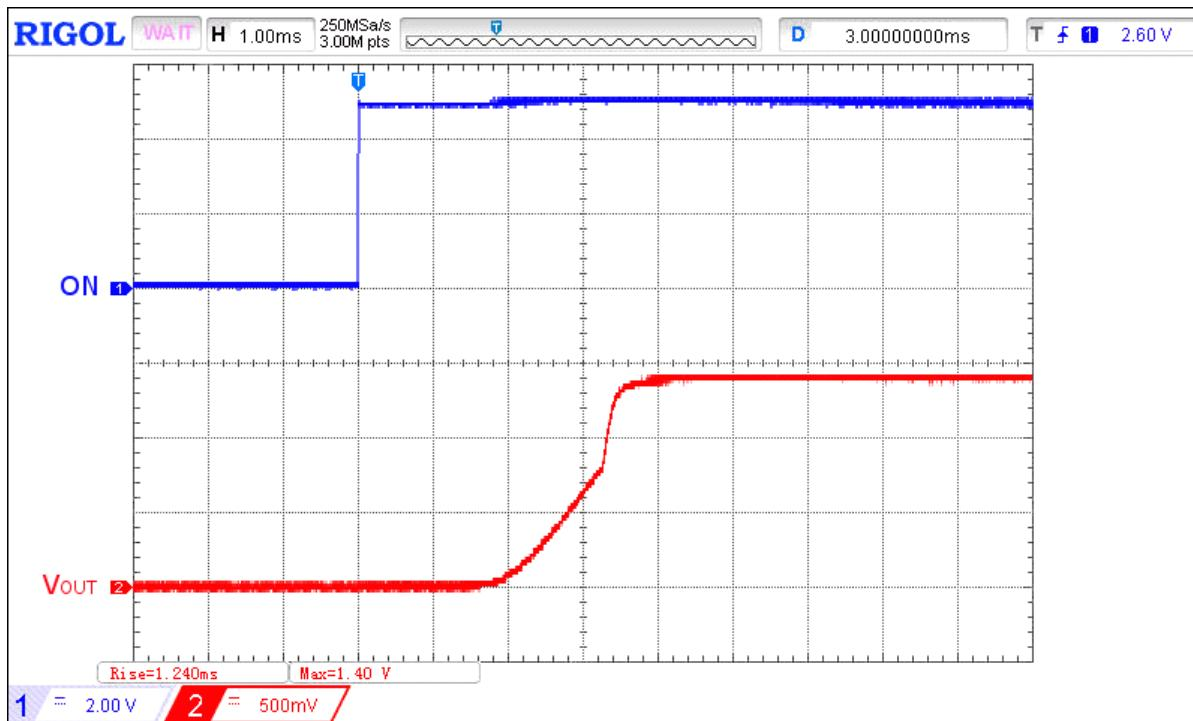

Figure 10. Non-linear and monotonic turn ON operation waveform for $V_{IN} = 1.5 \text{ V}$, $C_{LOAD} = 0.1 \mu\text{F}$, $R_{LOAD} = 1.5 \Omega$
2. $V_{\text{IN}} < 2 \text{ V}$ with 2Ω load, non-linear and monotonic power on ramp. (Figure 10, $V_{\text{IN}} = 1.5 \text{ V}$, $C_{\text{LOAD}} = 0.1 \mu\text{F}$, $R_{\text{LOAD}} = 1.5 \Omega$)